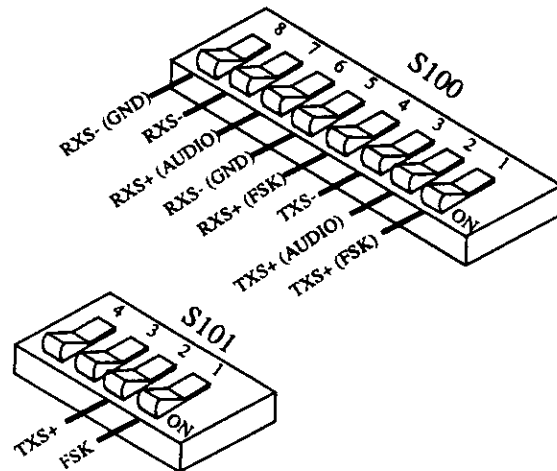

Figure 7-9 S100 SETTING
1. Set MAC S100 and S101, all Sections OFF (see Figure 7-9).